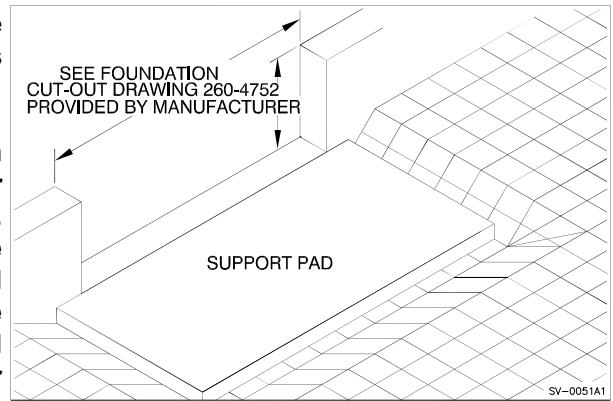

Figure 38: Foundation cut out and support pad
2. ___ Find the pre-determined floor level (See “Figure 38: Foundation cut out and support pad” on page 33) and ensure the foundation cut-out and support pad are in place to properly locate and support the dock leveler is appropriate according to the sizes shown on the dock leveler drawing provided by the Pentalift. For the dimensions of the foundation cut-out refer to Pentalift drawing 260-4752.